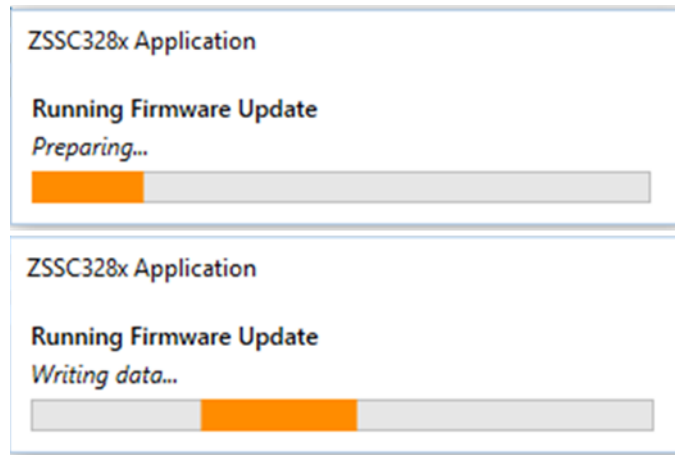

Figure 194. FW Update Operation
2. Click the “Start Firmware Update” button. The ‘ZSSC328x Application’ window pops-up (see Figure 194) The button is enabled if all criteria to perform a FW update is met. During the update, no other action can be performed in the GUI.